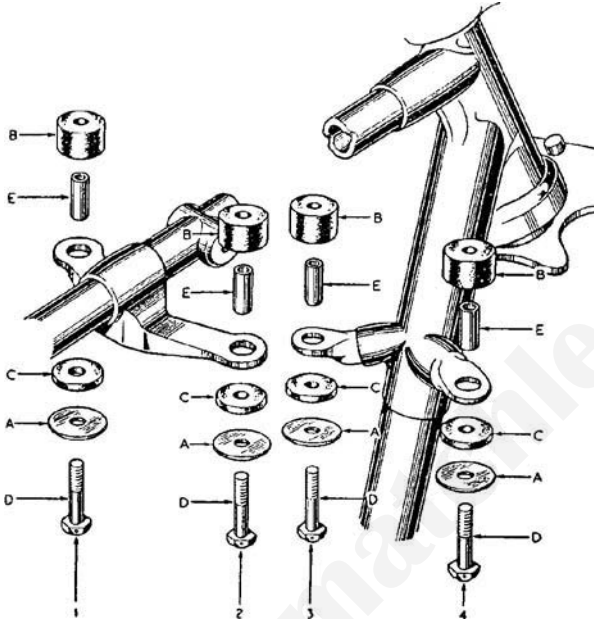

FIG. 55. PETROL-TANK MOUNTING (1950 ONWARDS)
KEY TO FIG. 55
- (1) Lay one of the twelve metal washers (B) on the end of each fuel tank support-bracket.
- (2) Lay one of the four thick rubber pads (A) on top of each metal washer.
- (3) Place a metal washer (B) on top of each thick rubber pad.
- (4) Carefully position the fuel tank.
- (5) Slip one of the four thin rubber pads (C) over each of the four tank-fixing bolts (D). Then slip a metal washer (B) over each bolt.
- (6) Insert all four tank-fixing bolts, complete with thin rubber pads and metal washers.
- (7) Tighten evenly all four tank-fixing bolts until the rubber pads are just slightly compressed. Do not fully tighten the bolts.
- (8) Wire-lock the four tank-fixing bolts. It is convenient to interlace them in pairs, using 22 gauge copper-wire.
- (9) Reconnect the petrol pipes, and use two spanners when tightening the union nuts.
Replace Petrol Tank (1950 Onwards). The arrangement of the tankfixing bolts and washers on 1950-7 models is shown in Fig. 55. As may be seen, an identical arrangement is provided for each of the four mounting brackets. Metal sleeves (shown at (E)) are included to enable the fixing bolts to be fully tightened without over compressing the rubber pads. To replace the petrol tank, proceed as follows-
- (1) Insert one of the four sleeves (E) in each of the four thick rubber pads (B), so that the top of the sleeve is flush with the top of the pad.
- (2) Lay the four thick rubber pads (B) on the ends of the four petroltank support-brackets, complete with sleeves (E) protruding through the bracket holes.
- (3) Correctly position the petrol tank.
- (4) Slide one of the four-metal washers (A) over each of the four tank-fixing bolts (D). Afterwards slip a thin rubber pad (C) over each tank-fixing bolt.
- (5) Insert all four tank-fixing bolts, complete with rubber pads and metal washers.
- (6) Tighten firmly the four tank-fixing bolts.
- (7) Interlace the four tank-fixing bolts in pairs, using 22 gauge copper wire.
- (8) Reconnect both petrol pipes, and with a spanner hold the taps when firmly tightening the union nuts or cap-nuts (1955 onwards).